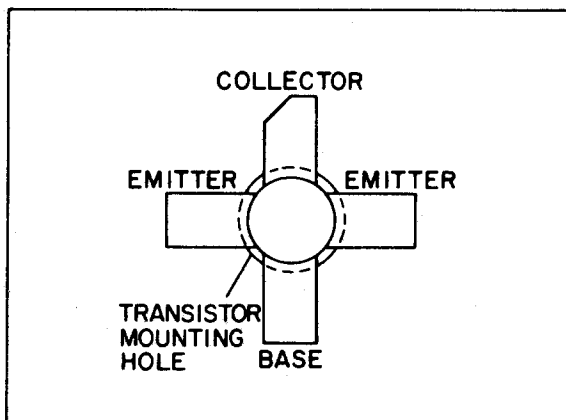
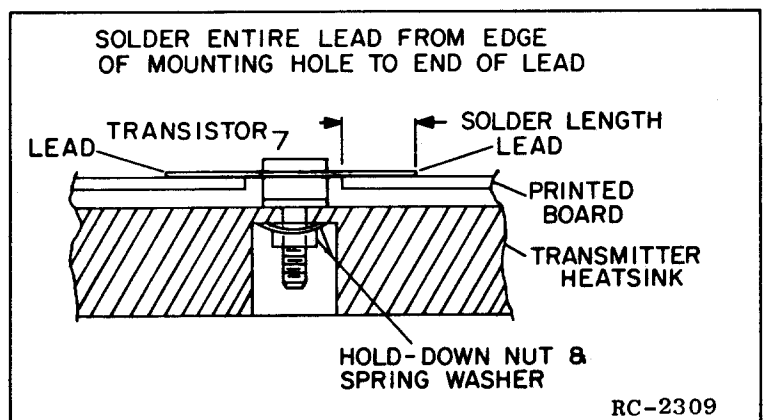

Figure 2 - Lead Identification
Figure 3 - Lead Forming
- (1) Unsolder one lead at a time with a 50-watt soldering iron. Use a scribe to hold the lead away from the printed circuit board until the solder cools.
- (2) Turn the PA board over.
- (3) Hold the body of the transistor to prevent it from turning. Remove the transistor hold-down nut and spring washer through the hole in the heat-sink with an 11/32-inch nut-driver for Q201, Q202 and Q203. Lift out the transistor, and remove the old solder from the printed circuit board with a de-soldering tool such as a SOLDA PULLT[®]. Special care should be taken to prevent damage to the printed circuit board runs because part of the matching network is included in the base and collector runs.
- (4) Trim the new transistor leads (if required) to the lead length of the removed transistor. Cut the collector lead at a 45° angle for future identification (see Figure 2). The letter "C" on the top of the transistor also indicates the collector.
- (5) Apply a coat of silicon grease around the transistor mounting surface, and place the transistor in the mounting hole. Align the leads as shown on the Outline Diagram. Then hold the body of the transistor and replace the hold-down nut and spring-washer, using moderate torque (8 inch-pounds). A torque wrench must be used for this adjustment since transistor damage can result if too little or too much torque is used.
- (6) Make sure that the transistor leads are formed as shown in Figure 3 so that the leads can be soldered to the printed circuit pattern, starting from the inner edge of the mounting hole.
- (7) Solder the leads to the printed circuit pattern. Start at the inner edge of mounting hole and solder the remaining length of transistor lead to the board. Use care not to use excessive heat that causes the printed wire board runs to lift up from the board. Check for shorts and solder bridges before applying power.